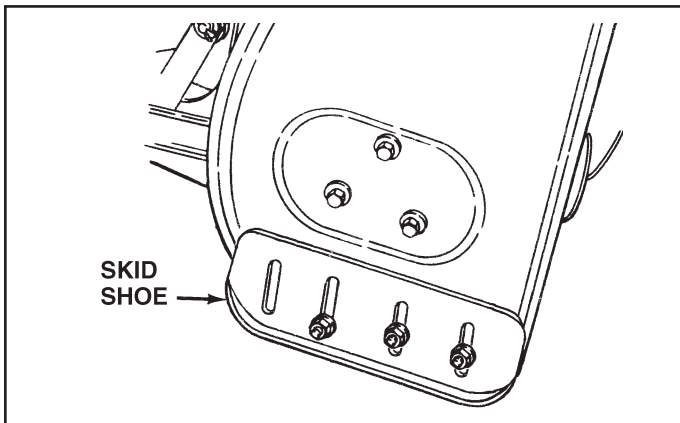

FIGURE 59
CHECK SCRAPER AND SHOES FOR WEAR (Refer to figures 59 and 60 on page 28.)
- Raise the snow thrower off the ground and place a block under each end of the scraper plate. Loosen the six hex nuts securing the skid shoes to the housing. Adjust the skid shoes up or down and retighten the nuts securely. Adjust both skid shoes to the same height to keep the housing and the scraper plate level. See figure 59.